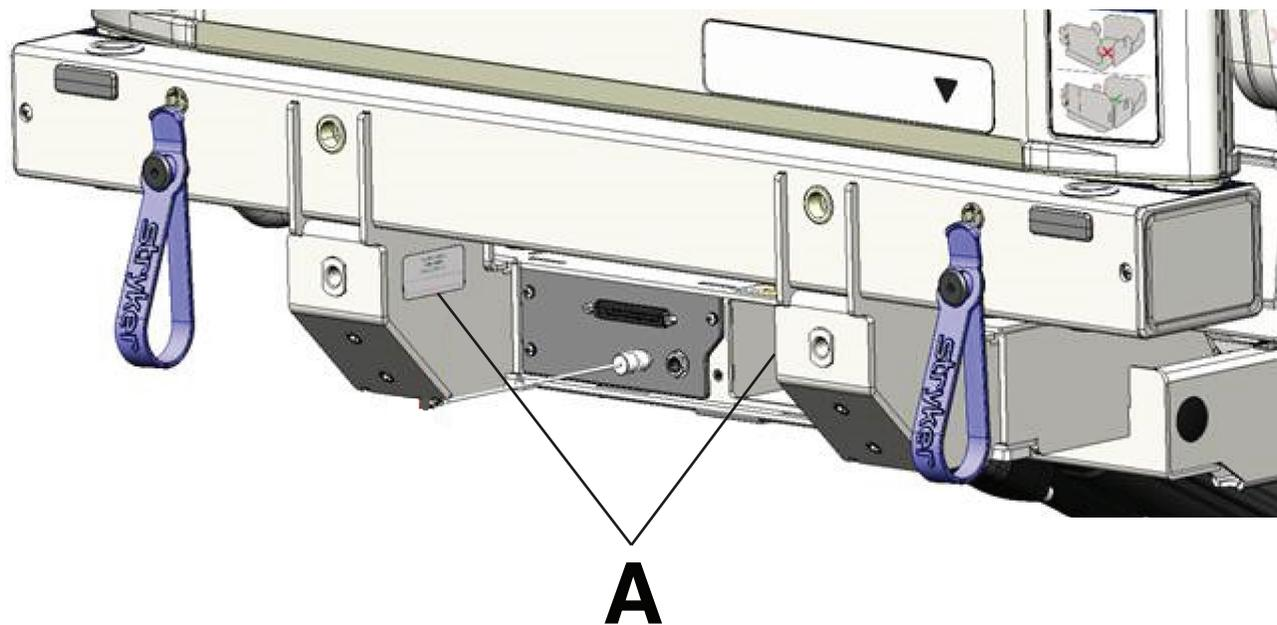

Figure 3 – Serial number location-operator view
You can find the serial number (A) below the headboard at the head of the bed (Figure 3).